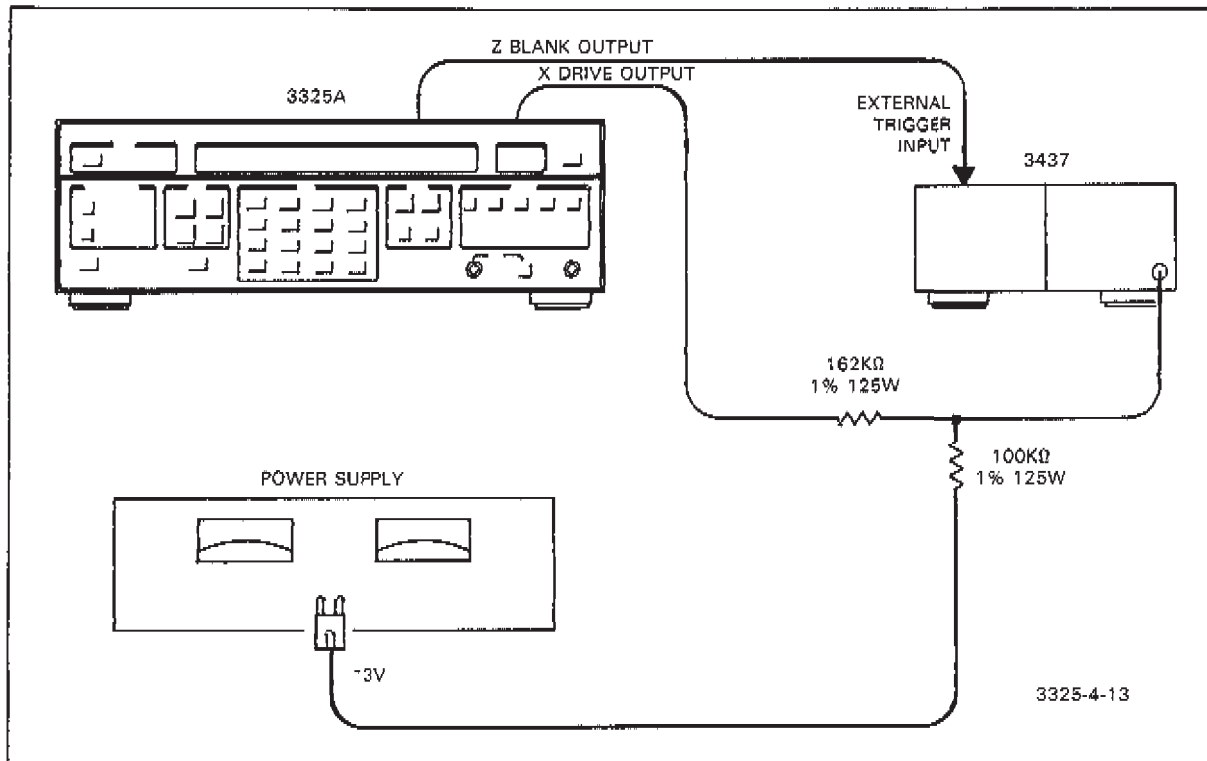

Figure 4-12. X Drive Linearity Test.
- a. Connect the equipment as shown in Figure 4-12.